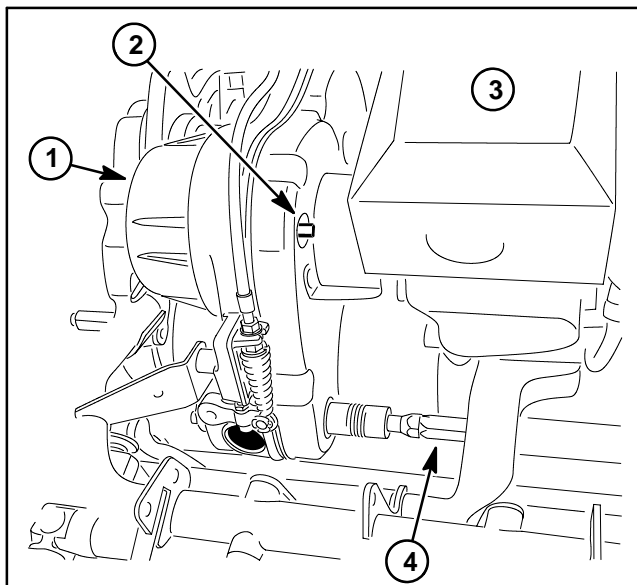

Figure 2
2. Locate the transmission engage/disengage shaft next to the engine (Fig. 2).